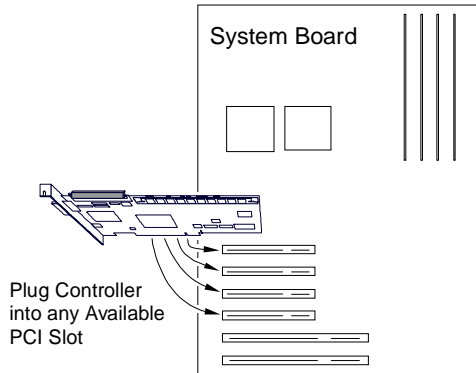

Figure 2-7. Plug Controller Board into any Standard PCI Slot
5. Plug the controller board firmly into the selected standard PCI slot as shown in Figure 2-7.